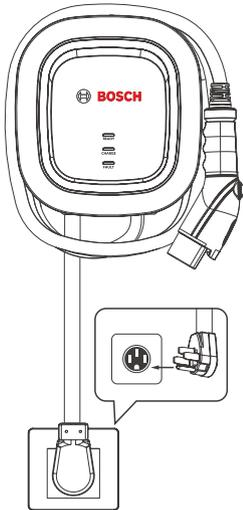

Fig. 9: Plug in EV 300
- Plug the AC power cord into the power outlet (see Fig. 9).